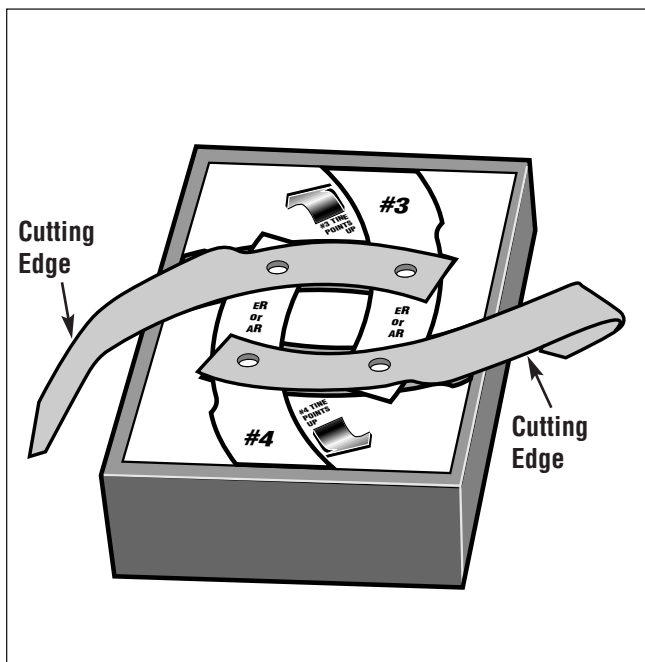

Figure 15: Assembly of an "A" gang.
A. Place two *left-curved* tines onto the template so that the tines cover the outlines of tines #1 and #2 as shown in Figure 15. The tips of the tines point